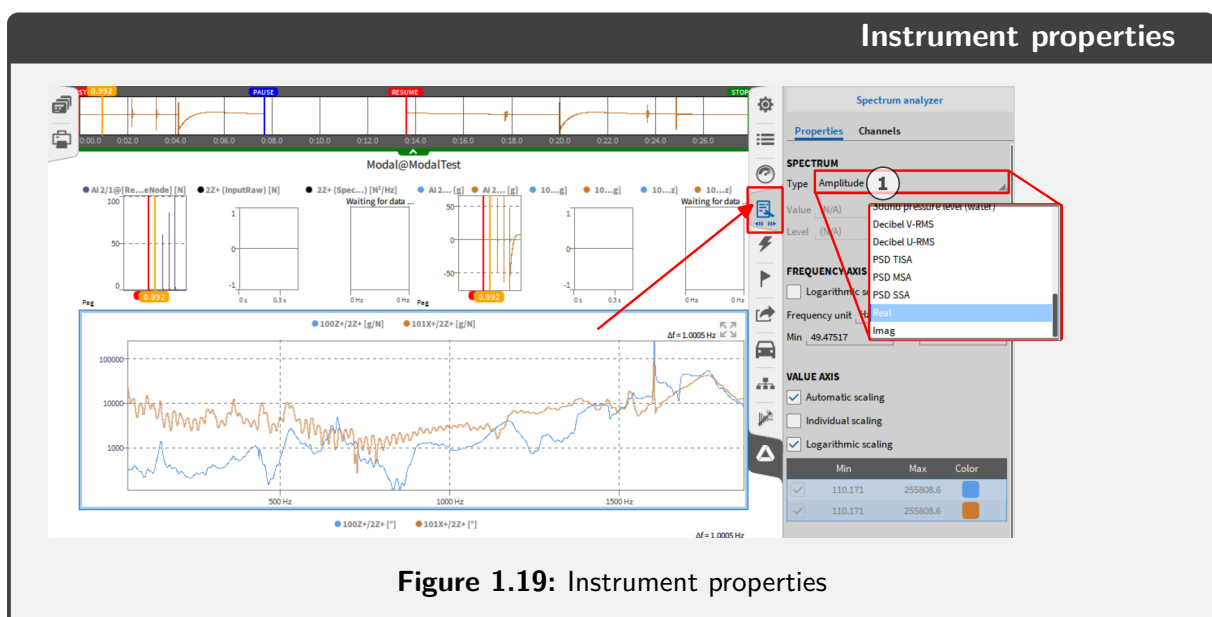

Figure 1.19: Instrument properties
A standard measurement procedure proceeds as follows: The trigger button (2) is active by default. If not, set the button to active and excite the test object. As a result, the bar indicator (7) should be filled, in this case, three times with a green color. To repeat an excitation event and discard the last one, the (Reject last) button (3) can be used. To switch to previous excitation groups, the desired excitation group (6) can be clicked to set it as the active group and display its data. To further analyze the data, a single FRF can be displayed in the amplitude response (14) by clicking (4). Furthermore, the MIF can be added to the coherence spectrum (16) by clicking (5). For more details about the MIF calculation go to formula 2.8 and for the Coherence calculation, to formula 2.6 and formula 2.7. Each instrument can be modified to change the displayed data, for example, the amplitude response can be set to display the real or imaginary part instead. Just click on the instrument to be edited and click the instrument properties tab seen in the next figure 1.19 (1) to choose the desired data. For more information on the spectrum analyzer, see the OXYGEN manual: <https://ccc.dewetron.com/pl/oxygen>.